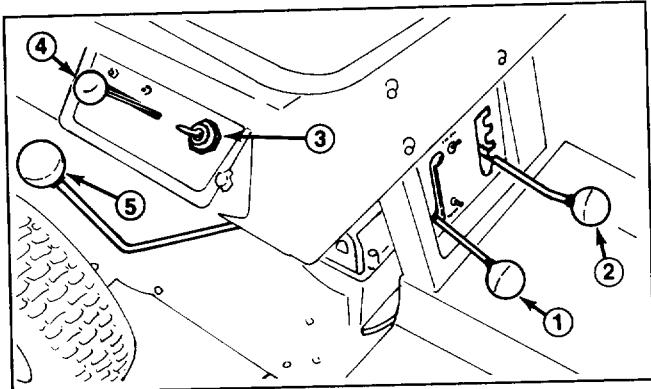

Figure 5
Gear Shift (Fig. 5) — The transmission has five forward speeds, neutral and reverse. The gear shift lever is located on right side of operator. An interlock switch, which prevents engine from being started when transmission is in gear, is mounted on top of transmission.
Blade Control (Fig. 5) — Blade control engages and disengages the cutter blade. An interlock switch prevents engine from starting when control is in the ENGAGE position. Engine will start when control is in the DISENGAGE position only.
Throttle Control (Fig. 5) — Throttle control connects to and operates carburetor-mounted throttle and choke. Control has three positions: SLOW, FAST and CHOKE.
Height-of-Cut (Fig. 5) — Height-of-cut control varies the cutting height from approx. 1-1/2 to 3-1/2 inches in five increments.
2. Move gear shift into neutral and blade control into DISENGAGE detent (Fig. 5).
3. Move throttle control to CHOKE position (Fig. 5) when starting a cold engine. However, a hot engine requires no choking. Move throttle to FAST position for starting.
4. Rotate ignition key (Fig. 5) to START position. When engine starts, release the key and move throttle between FAST and SLOW if choke was used for starting.
1. Move blade control into DISENGAGE detent (Fig. 5).
2. Move height-of-cut control (Fig. 5) into desired setting.